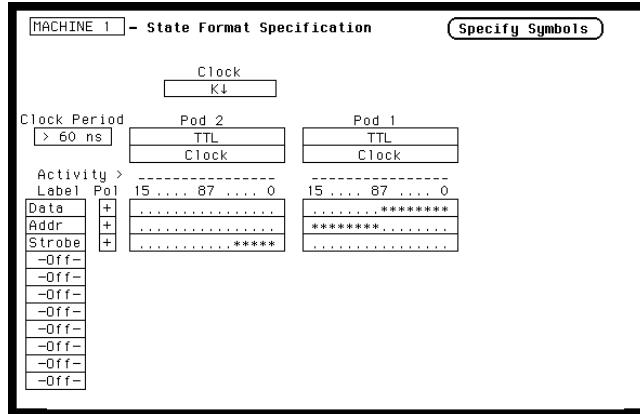

Figure 6-34. HP 1651B Format Menu
2. In the HP 1651B Format menu, assign the eight least significant bits of Pod 1 (pod 1.0 through pod 1.7) to the "Data" label and assign the eight most significant bits of Pod 1 (pod 1.8 through pod 1.15) to the "Addr" label. Assign the five least significant bits of Pod 2 (pod 2.0 through pod 2.4) to the "Strobe" label. Select a K-falling edge clock (K↓). Refer to figure 6-34.